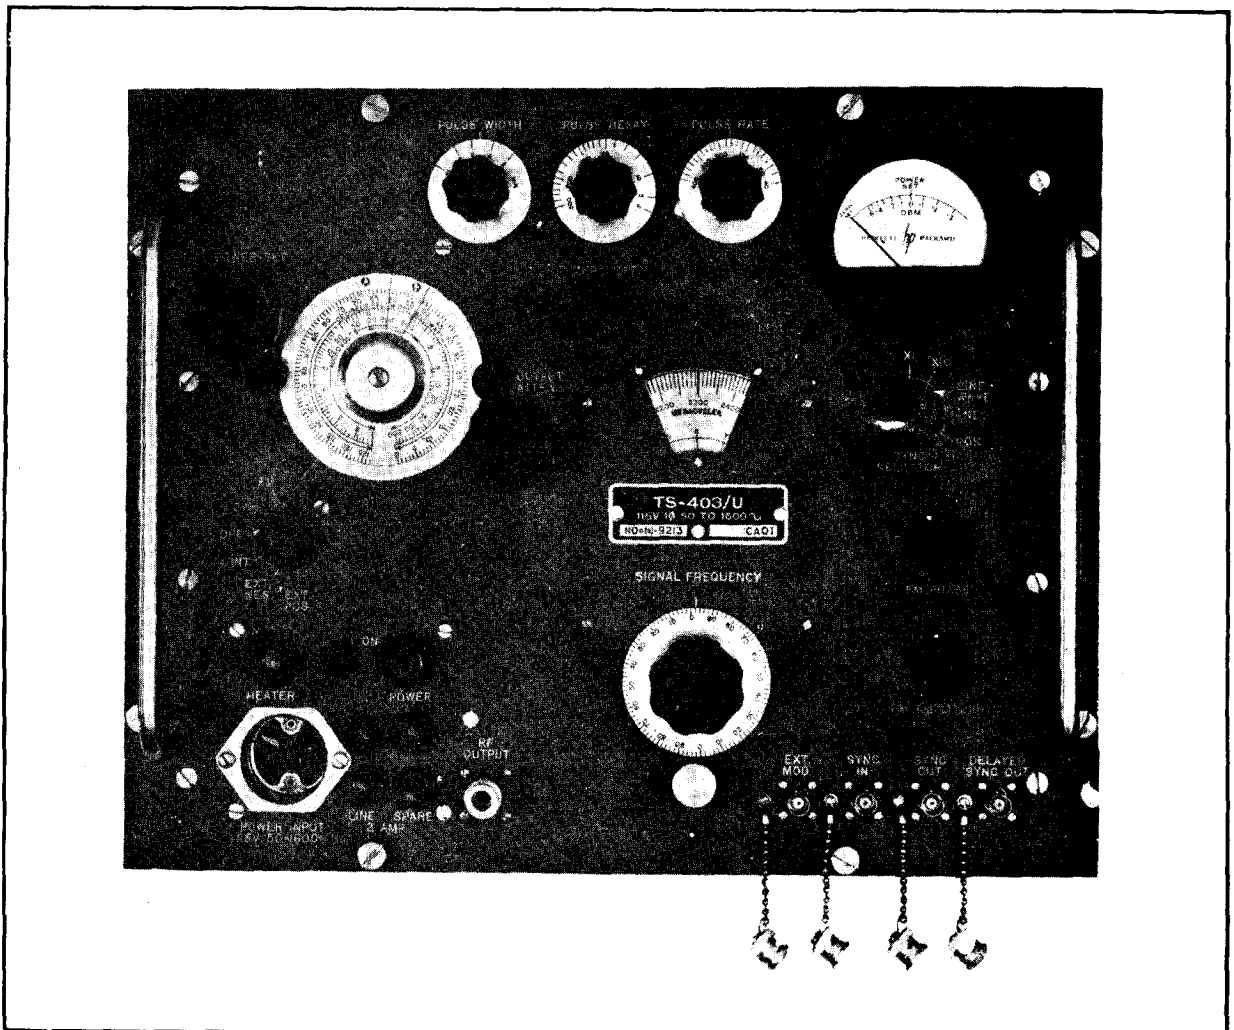
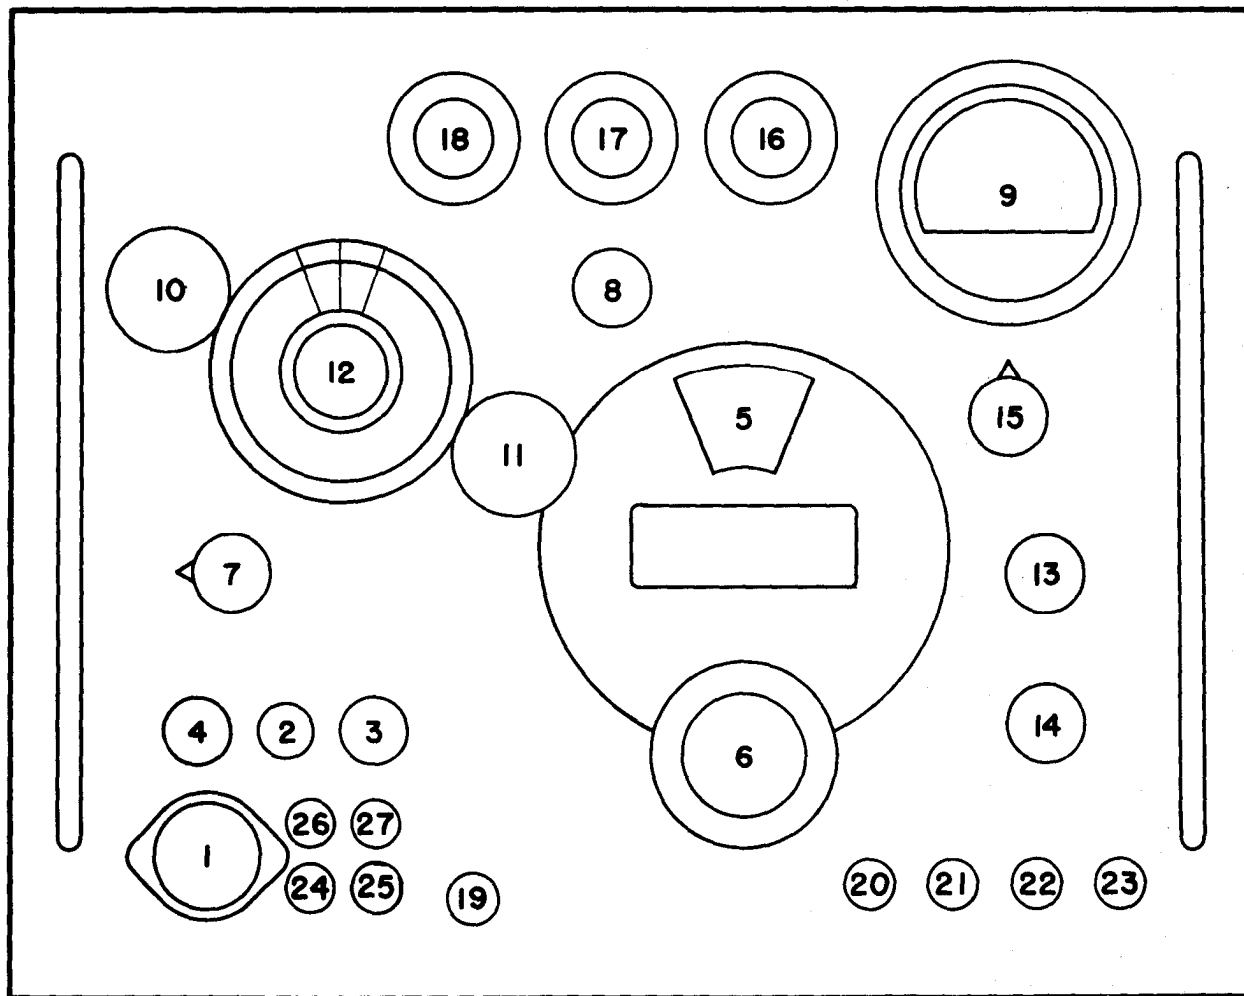

Figure 2-1. Signal Generator TS-403/U, Front Panel Controls
Figure 2-2. Signal Generator TS-403/U, Front Panel With Controls Numbered
a. CONTROLS.—All controls necessary for the operation of the instrument are located on the front panel. Figure 2-1 shows the front panel of the instrument, while figure 2-2 is an outline drawing of the panel with the controls, dials, and terminals numbered. These numbers are repeated in Table 2-1 which gives the name and function of the corresponding controls. The numbers are also used throughout this section as a reference to the controls.
(1) The main tuning dial (number 5 in figure 2-2) is calibrated directly in megacycles from 1800 to 4000 and is the frequency dial for the UHF oscillator. The setting of the main tuning dial is adjusted by control number 6, marked SIGNAL FREQUENCY. In addition to being calibrated directly in frequency, the main tuning dial is calibrated for every half turn of its control knob and the control knob is calibrated from 0 to 100 over each half of its periphery. This feature allows convenient resetting of the main tuning dial and permits interpolation of frequency readings if desired.
(2) Control number 7 is the oscillator modulation selector switch and allows the oscillator to operate in a variety of ways: frequency modulated, continuous wave, internal pulse modulated, external negative pulse or square wave modulated, or external positive pulse or square wave modulated. Before setting the control for any
d. OUTPUT TERMINALS.—Three output terminals are provided on Signal Generator TS-403/U, the most important being the RF OUTPUT terminal (number 19 in figure 2-2). At this terminal the rf output is obtained from the instrument.